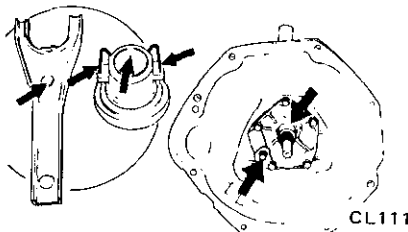

Fig. CL-12 Lubricating points of withdrawal lever and front cover
- (2) Contact surface of withdrawal lever, lever ball pin and bearing sleeve.
- (3) Contact surfaces of transmission front cover. See Figure CL-12.